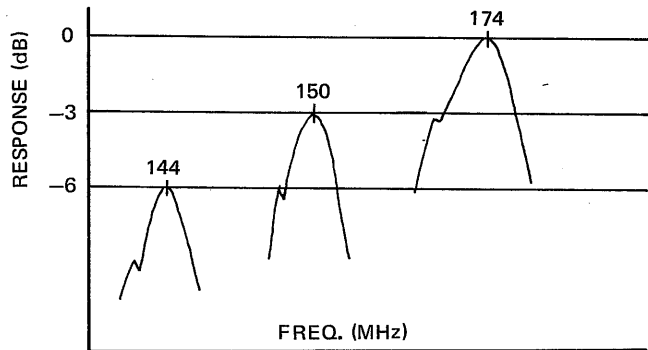

FIGURE 8
Step 4: Make sure that the output curves are similar to Figure 8 (for channels 4 thru 6).